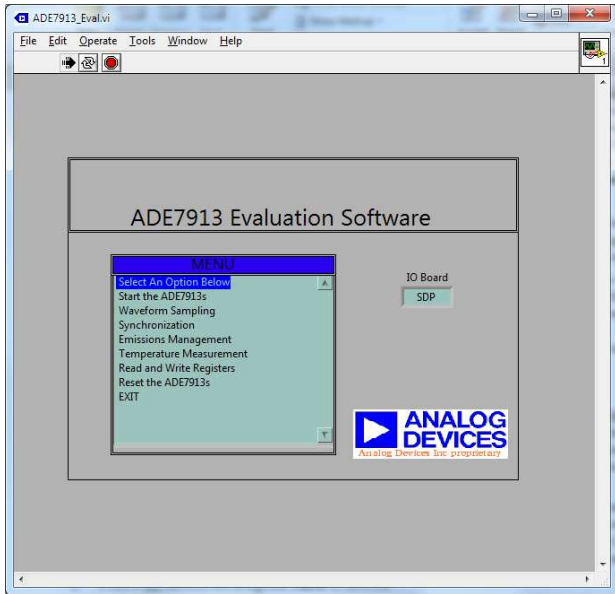

Figure 11. Front Panel of the ADE7913 Software
When the software is launched, the **Front Panel** is opened. This panel contains two areas: the main menu on the left, and a box that displays the name of the communication port used by the PC to connect to the interface port on the right (see Figure 11).
The software automatically detects the SDP Blackfin board. If the port detection is successful, the SDP label appears in the **IO Board** field, as shown in Figure 11.
1. Click **OK** to terminate the program (see Figure 11).
The options provide access to all internal registers and allow the evaluation of the ADC performance. To access these functions, click the desired option in the **MENU** (see Figure 11).